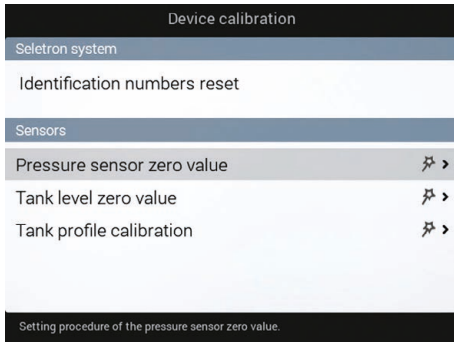

Fig. 140
- 1 Select **Pressure sensor zero value** (Fig. 140) and press **OK**.